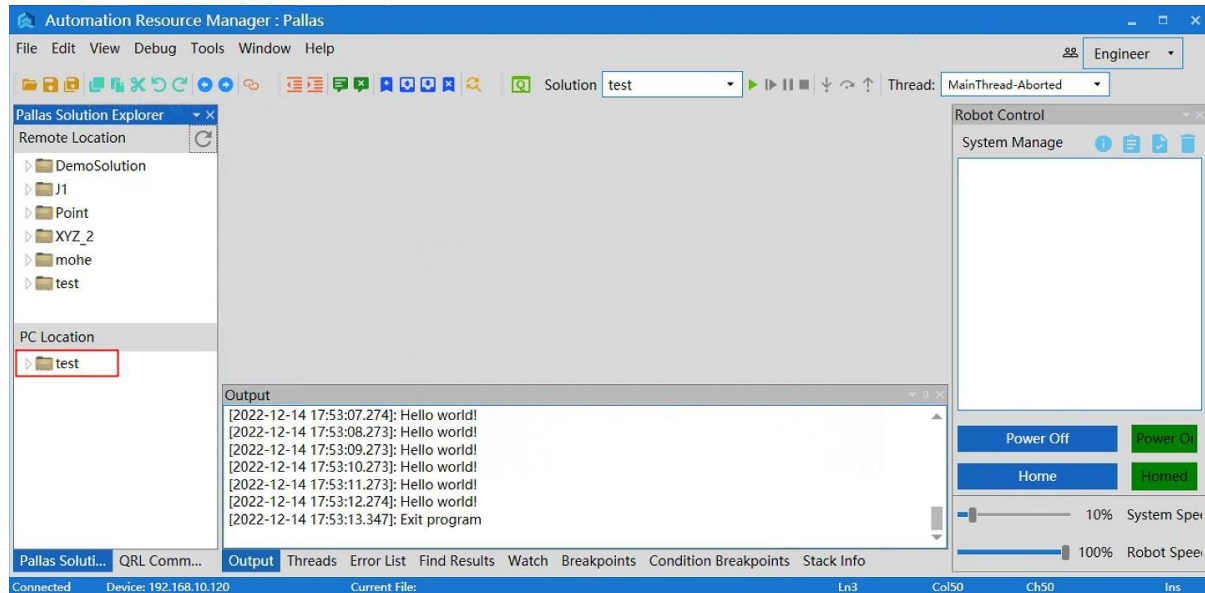

Figure 6-45 "PC Location" file interface
**Step 4** After completion, the file will appear in "PC Location", and the program file will also appear in the corresponding save path, as shown in Figure 6-45.